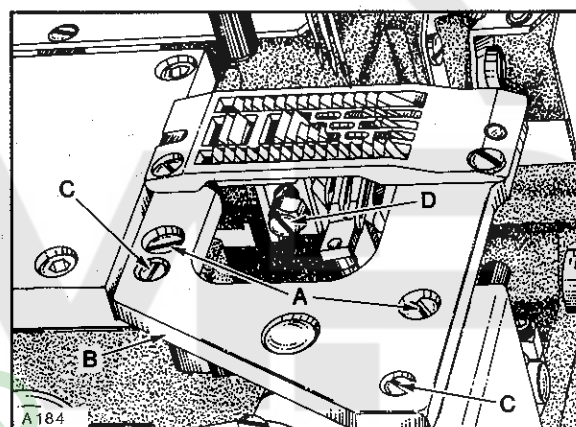
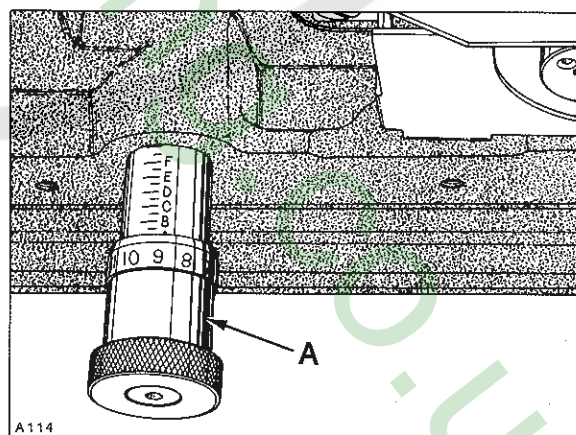
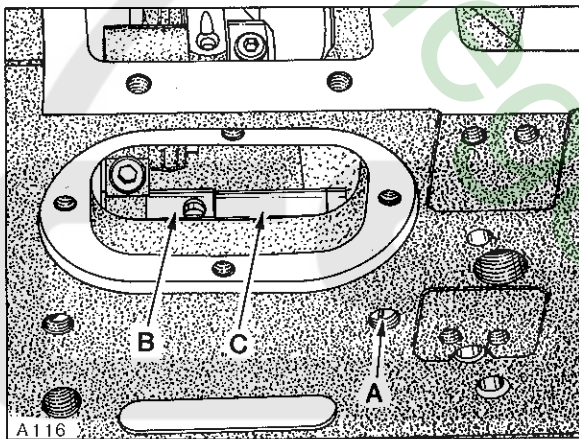
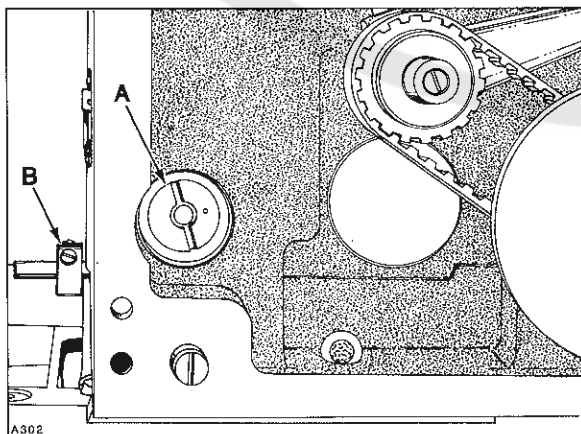

Fig.15
Fig.16
Fig. 18
Fig. 19
Feed dog should be centered in throat plate with equal clearance on both sides and ends. Feed dog should be level with and parallel to the top of throat plate as it begins to rise. At highest point of travel, feed dog teeth should extend the depth of a full tooth, or approximately 3/64 inch (1.2mm) above throat plate. **MINOR** (right to left) adjustments can be made by loosening two screws (A, Fig. 15) in throat plate support (B). Loosen two screws (C) securing two locating ferrules which allow movement to align throat plate support. Reposition slightly as required, considering both needle hole slots and feed dog slots. Tighten screws (C) first, then screws (A). Front to rear adjustment can be made by turning stitch regulating knob (A, Fig. 16) counterclockwise to obtain **LONGEST** stitch length. Remove rear feed chamber cover which is secured with four screws.
Feed dog can be leveled or tilted by loosening screw (A, Fig. 18) and rotate feed rocker tilting shaft (A, Fig. 19) slightly as required. Punch mark on shaft must be facing operator. Check parallelism of feed dog by placing throat plate in position. Before tightening screw (A, Fig. 18), make sure to have approximately .002 inch (.051mm) clearance between feed rocker (B) and spacer sleeve (C).
With feed travel set to desired stitch length, set feed dog height as specified by loosening mounting screw (D, Fig. 15) to position as required. Feed dog supporting screw is located in the feed dog holder, adjust as required to support feed dog before tightening screw (D).
Stitch length is changed by turning stitch regulating knob (A, Fig. 16) clockwise to shorten the stitch or counterclockwise to lengthen the stitch. Recheck front to rear clearance under "FEED DOG SETTINGS" whenever stitch length is changed. Stop collar (B, Fig. 19) at rear of machine attached to stitch regulating knob shaft can be set to prevent stitch length regulating knob (A, Fig. 16) from accidentally being turned beyond the desired stitch length.